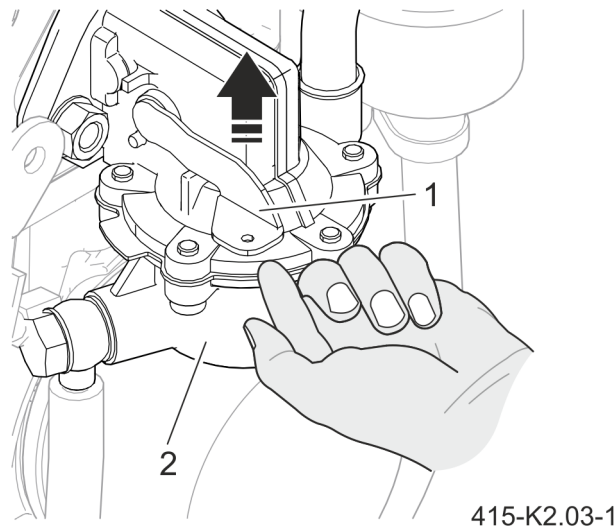

FIGURE 6.3 Pumping fuel using a hand lever
(1) - hand lever; (2) - fuel pump
- ⇒ When filling the fuel tank for the first time, when the fuel system is empty or after replacing the fuel filter, pump fuel using the hand lever (1) of the fuel pump (2) (FIGURE 6.3) until you can hear that fuel returns to the fuel tank via the injection pipe.